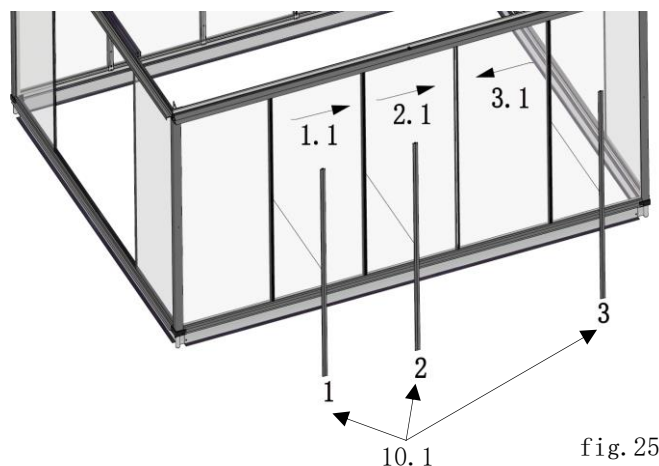

fig. 25
- the glazing panes are first moved in the direction of arrows 1.1, 2.1 and 3.1. (*fig. 25*)
- then the glazing 1.1 is pushed in the opposite direction up to the 1st side glazing-bar (item 10.1). (*fig. 25*)